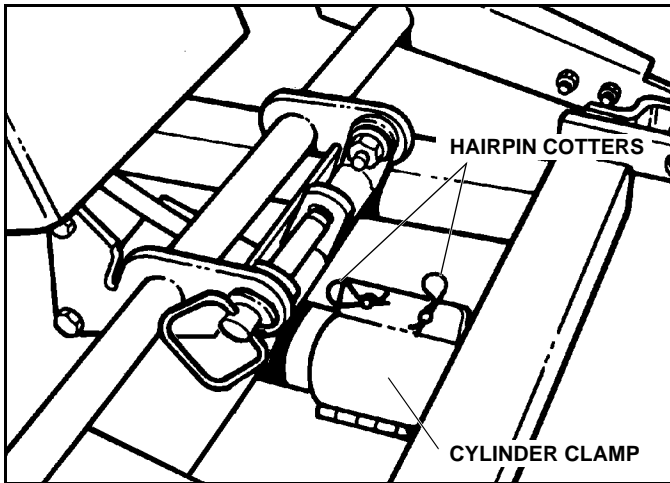

Figure 1-24
4. Position the Cylinder Lock Clamp around the exposed (chrome) portion of the Lift Cylinder and install the Pins. Install the Hairpin Cotter Into the Pins. (See Figure 1-24)